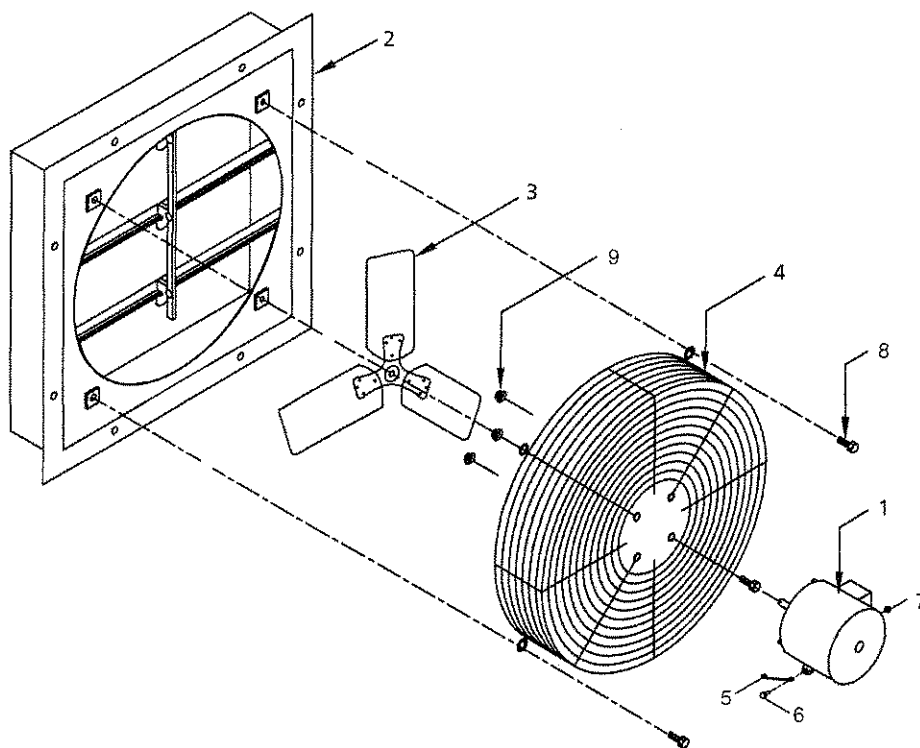

Figure 3 — Repair Parts Illustration
1. Refer to illustration of parts placement (Figure 3).
⚠ CAUTION *Do not repair damaged propeller. Replace with a properly balanced unit (see Figure 3 Reference No. 3).*